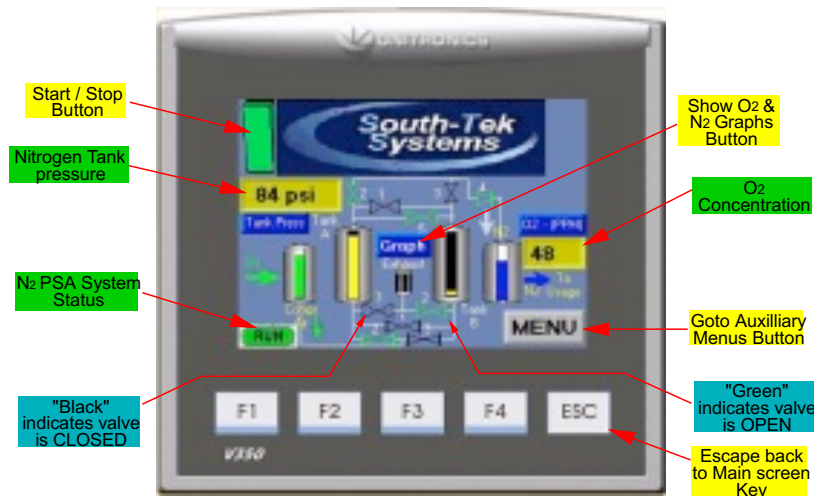
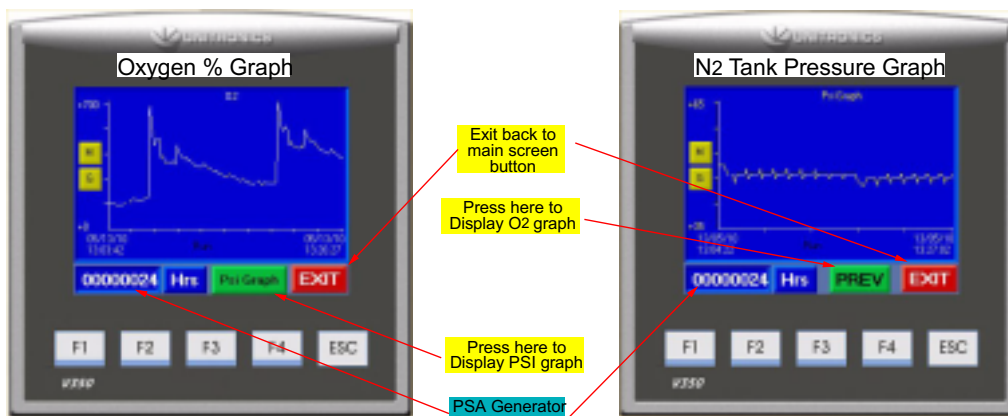

Figure 1: Power Switch/System Status
Figure 2: Graph Menu
From the “Main Screen”, the user can access the “Run Hour” and graphic displays of the O2% content and N2 Storage tank pressure. To do so, touch the icon labelled “Graph” (see **Figure 1**). The bottom left shows the total run hours. The graph shows the current running O2 %. To see the N2 Tank pressure, click on the green PSI button to switch the graph (See **Figure 2**).
The PLC comes standard with a pressure indicator to display the current pressure inside the Nitrogen Storage Tank. Looking at the above **Figure 1**, the tank pressure can be view on the left side on the main screen.
8. When Product Pressure reaches the cut-out pressure (see 5.2.3), the green “Run” indicator will switch to the amber “Standby” indicator (see **Figure 1**) and nitrogen production will stop. When product is used and Product Pressure falls to the cut-in pressure, the “Standby” indicator will switch back to “Run” and nitrogen production will resume.